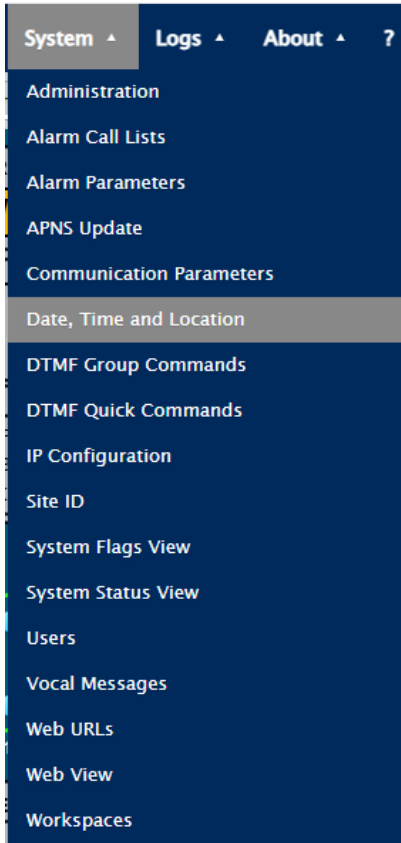
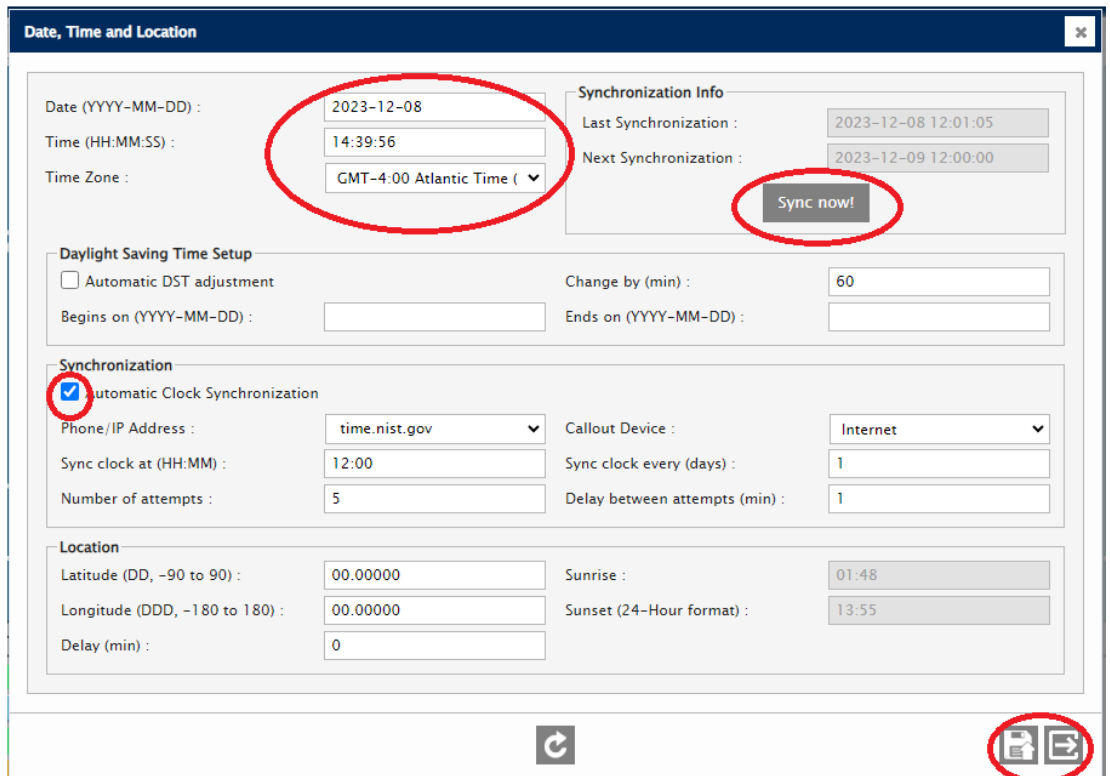

Figure 2-8: System -> Date, Time and Location selection
Figure 2-9: System -> Date, Time and Location screen
- (a) From the top menus, select **System -> Date, Time and Location** (see Figure 2-8). The Date, Time and Location screen in Figure 2-9 will display.